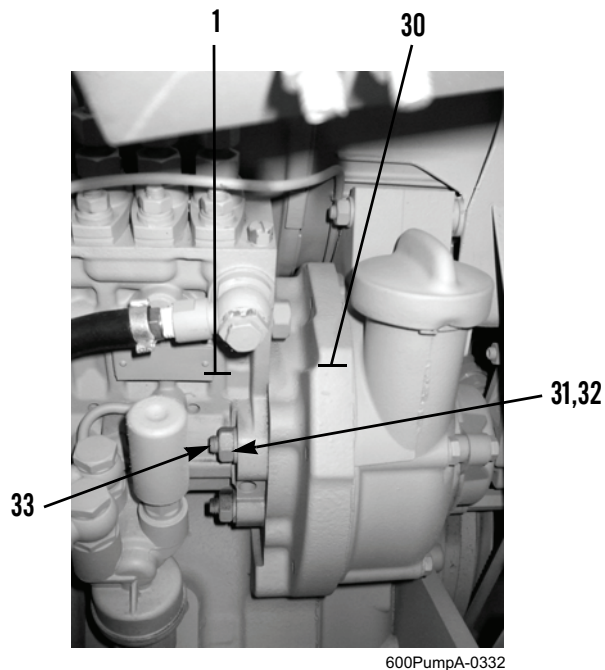

Figure 10. Removing Fuel Injection Pump.
22. Remove four nuts (Figure 10, Item 31) and washers (Figure 10, Item 32) from studs (Figure 10, Item 33) at engine block (Figure 10, Item 30).